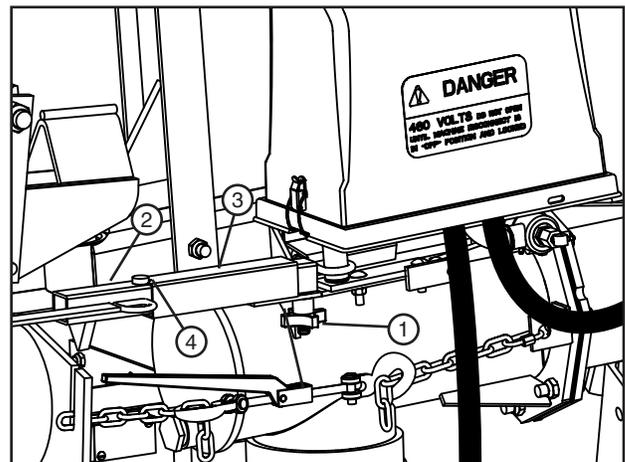

Figure 31-3 1. Plastic Knob 3. Inner Alignment Arm
10. Loosen the plastic knob located on tower box inner alignment arm. See Figure 31-3.
11. Slide the outer alignment arm into the inner alignment arm until the stop is seated in the V-notch. See Figure 31-3.
12. Tighten the plastic knob to hold the alignment arm in place. See Figure 31-3.